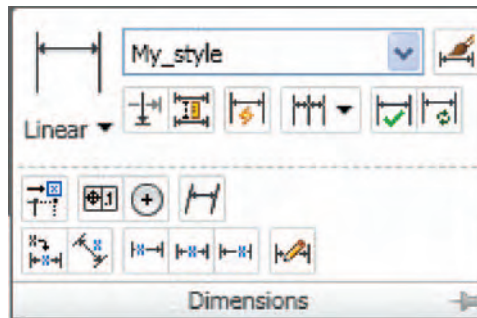

Fig. 6.1 Dimension tools in the **Annotate/Dimension** panel
1. From the **Annotate/Dimensions** panel (Fig. 6.1).
From Figs. 6.1 and 6.2 it will be seen that there are some dimension tools which have not been described in examples. Some operators may prefer *entering* dimensions from the command line. This involves abbreviations for the required dimension such as: